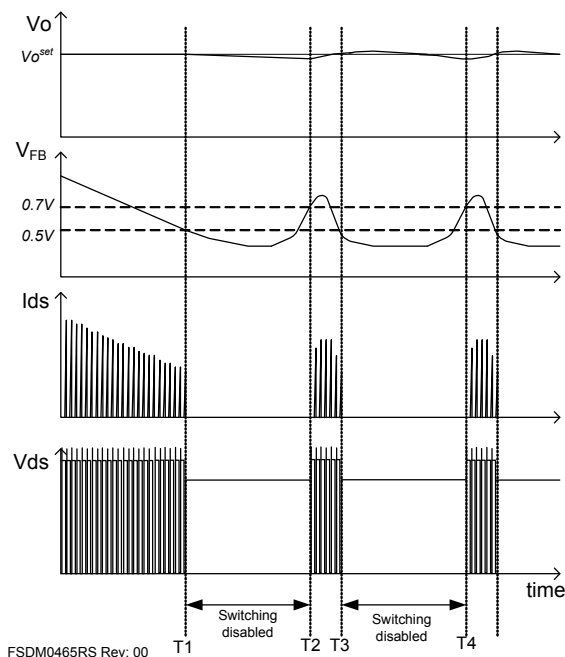

Figure 22. Waveforms of Burst Operation
5. Burst operation: To minimize power dissipation in standby mode, the FSDM0465RS enters burst mode operation. As the load decreases, the feedback voltage decreases. As shown in Figure 22, the device automatically enters burst mode when the feedback voltage drops below $V_{BURL}(500mV)$. At this point switching stops and the output voltages start to drop at a rate dependent on standby current load. This causes the feedback voltage to rise. Once it passes $V_{BURH}(700mV)$ switching resumes. The feedback voltage then falls and the process repeats. Burst mode operation alternately enables and disables switching of the power SenseFET thereby reducing switching loss in Standby mode.